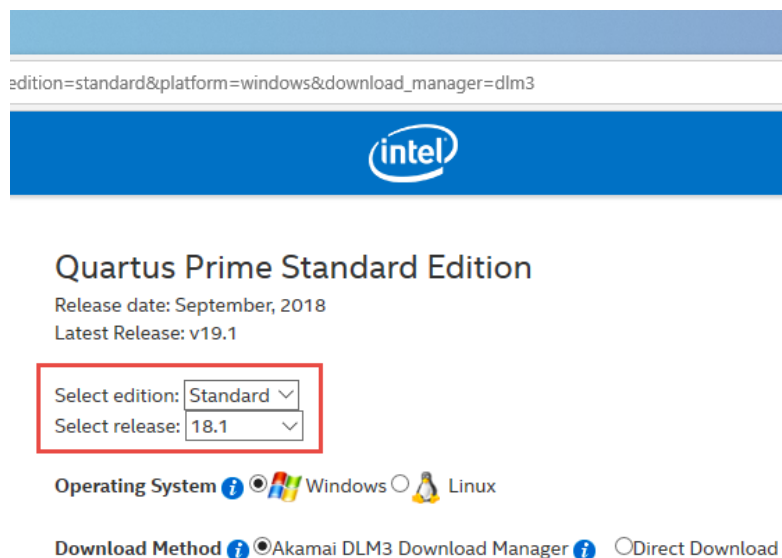

Figure 4-2 Select Quartus edition and release
2. As shown in **Figure 4-2**, set the “Select edition” to **Standard** and set “Select release” to **18.1**. (In order to properly execute the power monitor, please install 18.1 standard version)